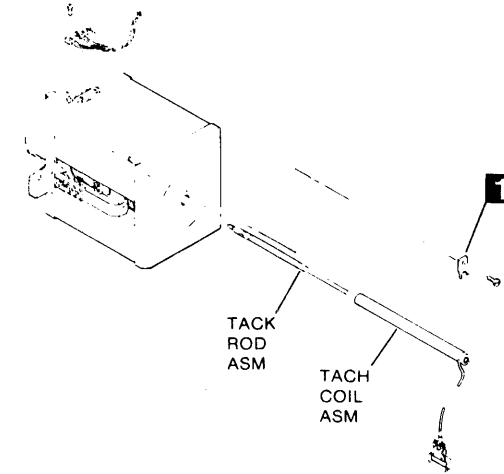

FIGURE 4-23. TACH RETAINING SCREW AND CLIP
2. Remove screw and clip, 1 in Figure 4-23, on rear center of linear motor.